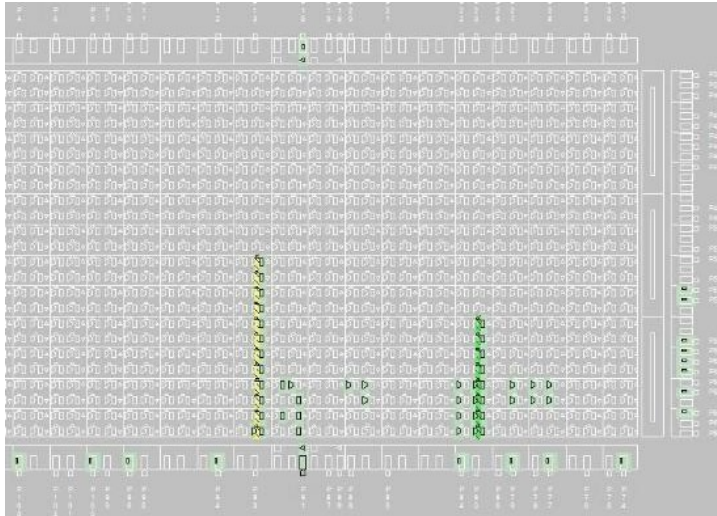

Figure 20. Floorplanner view
1. Opening Floorplanner; Highlight top\_accumulator.vhd in **Sources in Project** window. Expand **Implement Design** task on the **Processes for Source** window. Expand **Place & Route** under **Implement Design** task and double click on **View/Edit Placed Design (Floorplanner)**. You will get a window similar to figure 20. This is a graphical representation of how the project was developed onto the chip. What you are looking at is an overhead view of the device. The outer ring is the input and output blocks (IOBs). Just as with CPLDs, this is how the device communicates with the outside world. All of the inner boxes are configurable logic blocks (CLBs). This is where all the data processing actually occurs.